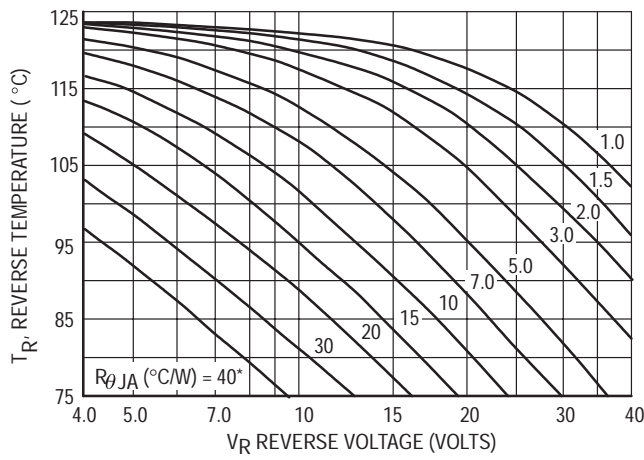

Figure 3. Maximum Reference Temperature – 1N5834
Step 2. Find T_R from Figure 3. Read $T_R = 118^\circ\text{C}$